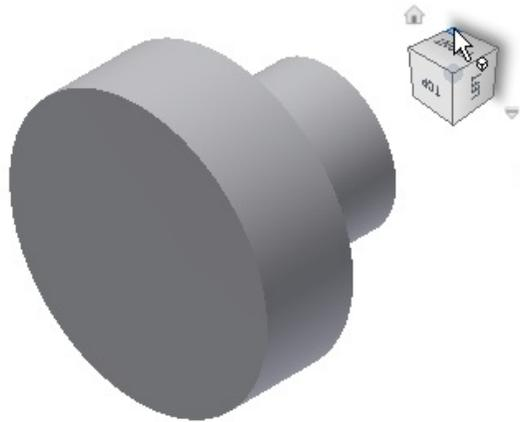

Figure 4-86 Selecting the corner of the ViewCube
2. To view the component from another direction, click on the top-most corner of the ViewCube, as shown in Figure 4-86.